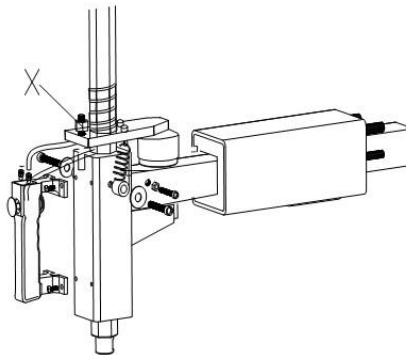

Fig 21
Note: If Vertical Arm not be locked or not meet the requirement that 2-3mm from the bottom of Mounting head/demounting head to rim, please adjust Hexagonal Locking Plate, refer to Fig 21 and adjust the (X).